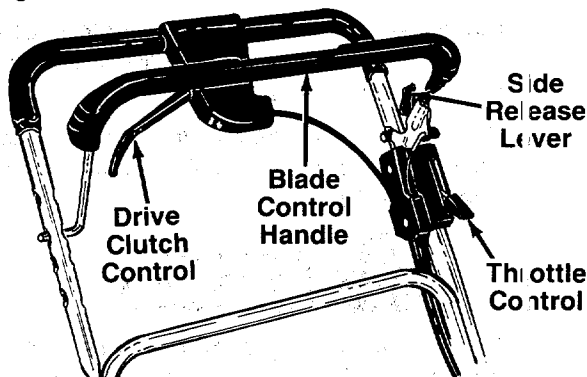

FIGURE 14.
The throttle is located on the left side of handle. It controls engine speed. See figure 14.
To engage the blade, pull the side release lever away from the unit. See figure 14. Pull the blade control handle against the upper handle. Release side lever.
Squeezing the drive clutch control engages the drive mechanism to the rear wheels. Releasing the clutch control stops the rear wheels from driving. Release the drive clutch control to slow down when negotiating an obstacle, making a turn or stopping. See figure 14.
2. To engage the blade, pull the side release lever away from the unit. Pull the blade control handle down against the upper handle. Release the side lever. See figure 14.